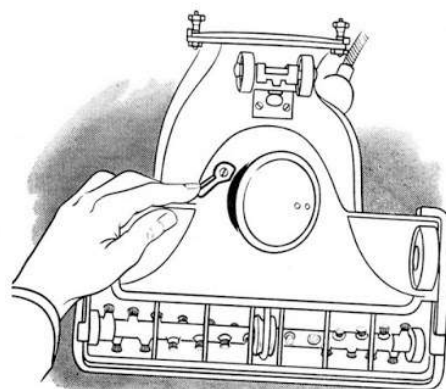

FIG. 88—Hand-hole cover type of cleaner bottom plate
1. Figure 88 illustrates the small cover plate held in place with a lever. Usually this plate is called a hand-hole cover.